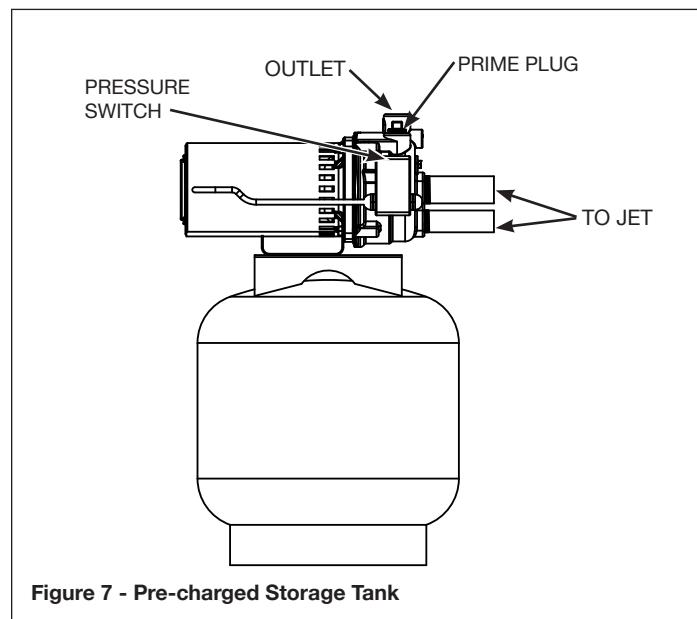

Figure 7 - Pre-charged Storage Tank
**DEEP WELL PUMP WITH PRE-CHARGED STORAGE TANK (FIGURE 7)**